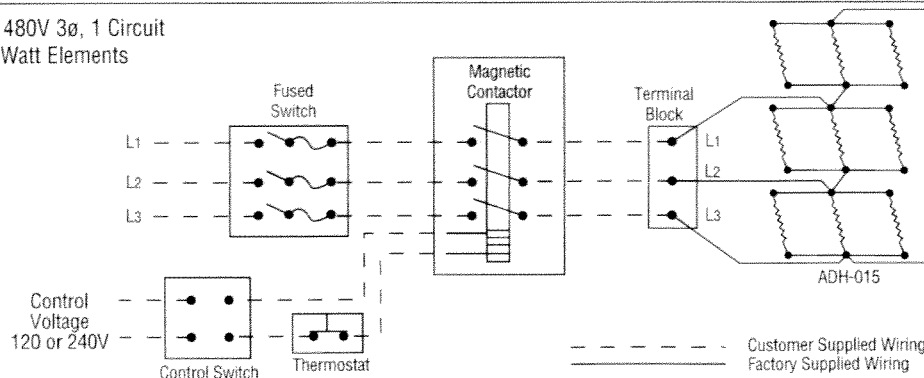

Figure 8
- Below is an example of a standard ADH-015, 480V 3 Ø 15 kW, wired with recommended back-up controls. (Figure 8)